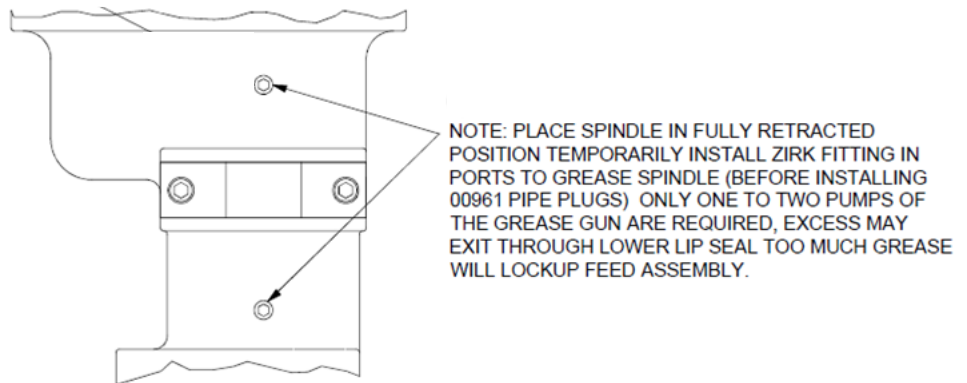

Figure 4
5. To grease between main housing bore (item 73) and the ram outer diameter (item 26) use **CAUTION** only one to two pumps of grease are required at these locations, excess grease will lockup feed assembly (See figure 4 below).